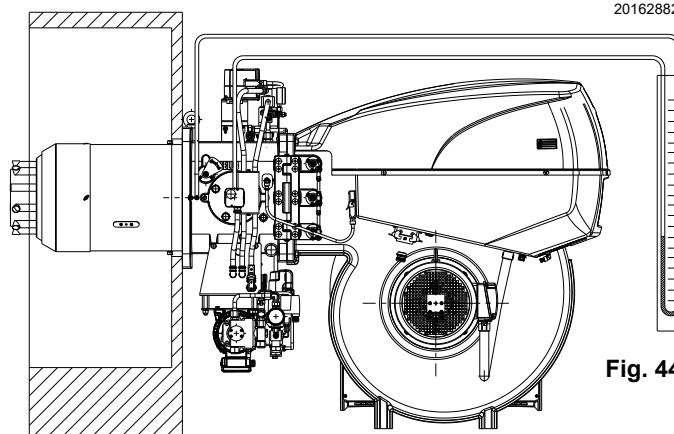

Fig. 44
- Fit a U-type manometer (Fig. 44) to the gas pressure test point on the sleeve. The manometer readings are used to calculate MAX. burner power.